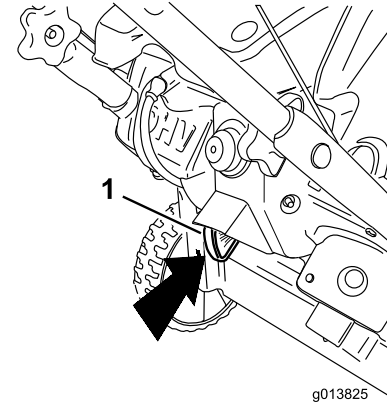

Figure 12
1. Push the ignition key fully inward to the ON position (Figure 12).